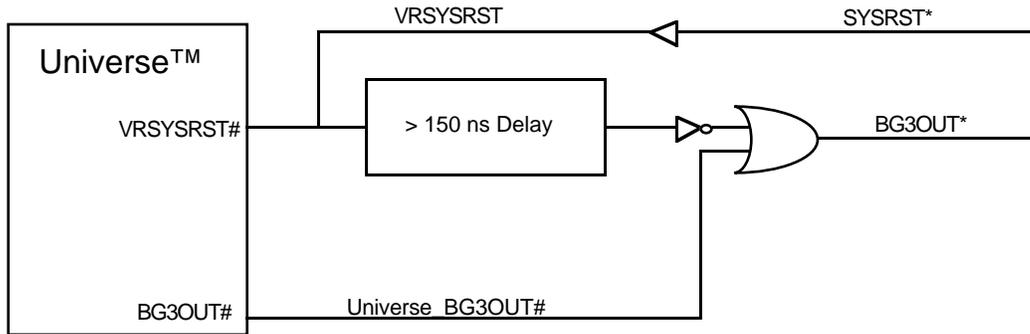

Figure 1.1: BG3OUT# Circuit Solution
(1) Figure 1.1 is a circuit that can be built to mask the state of the Universe BGxOUT# signals during system reset. The circuit shows an implementation with BG3OUT# only. While SYSRST# is asserted, the inversion of the VRSYSRST# after the delay element, will mask the state of BG3OUT# during and for 150ns after SYSRST* assertion. The delay element is required since BG3OUT# may remain low for several CLK64 periods after release from reset. This can be implemented in any fashion that will delay the effect of SYSRST* negation for 150ns or greater. For other bus grant daisy chain signals, the circuit may be duplicated or 10k pull-ups may be placed on each of the BG[2:0]IN# to ensure the bus grant output remains high during reset.